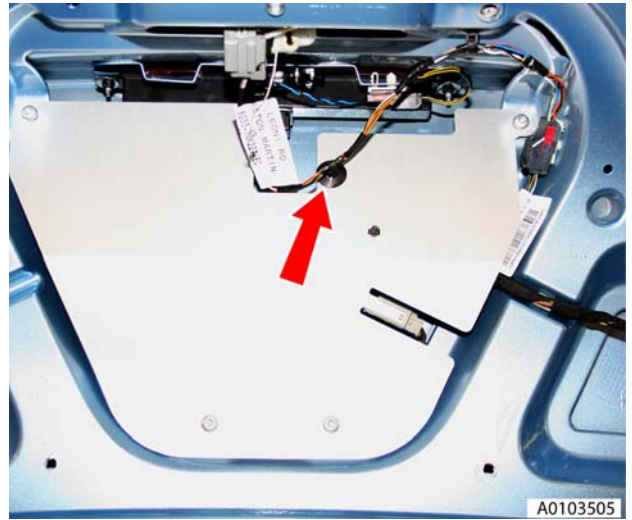

Figure 2
5. Release clip securing harness to interior panel (see Figure 2).